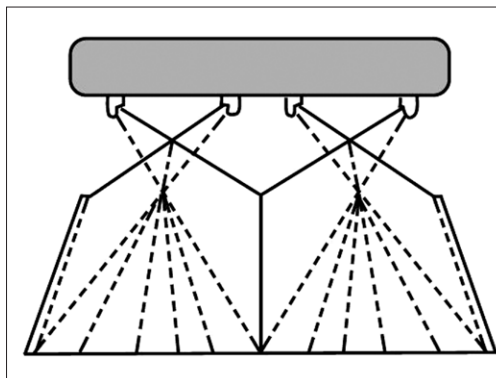

Figure 9. Nozzle Spray Pattern
- Check to see if the nozzles are all spraying consistently and producing the spray pattern shown in **Figure 9**.